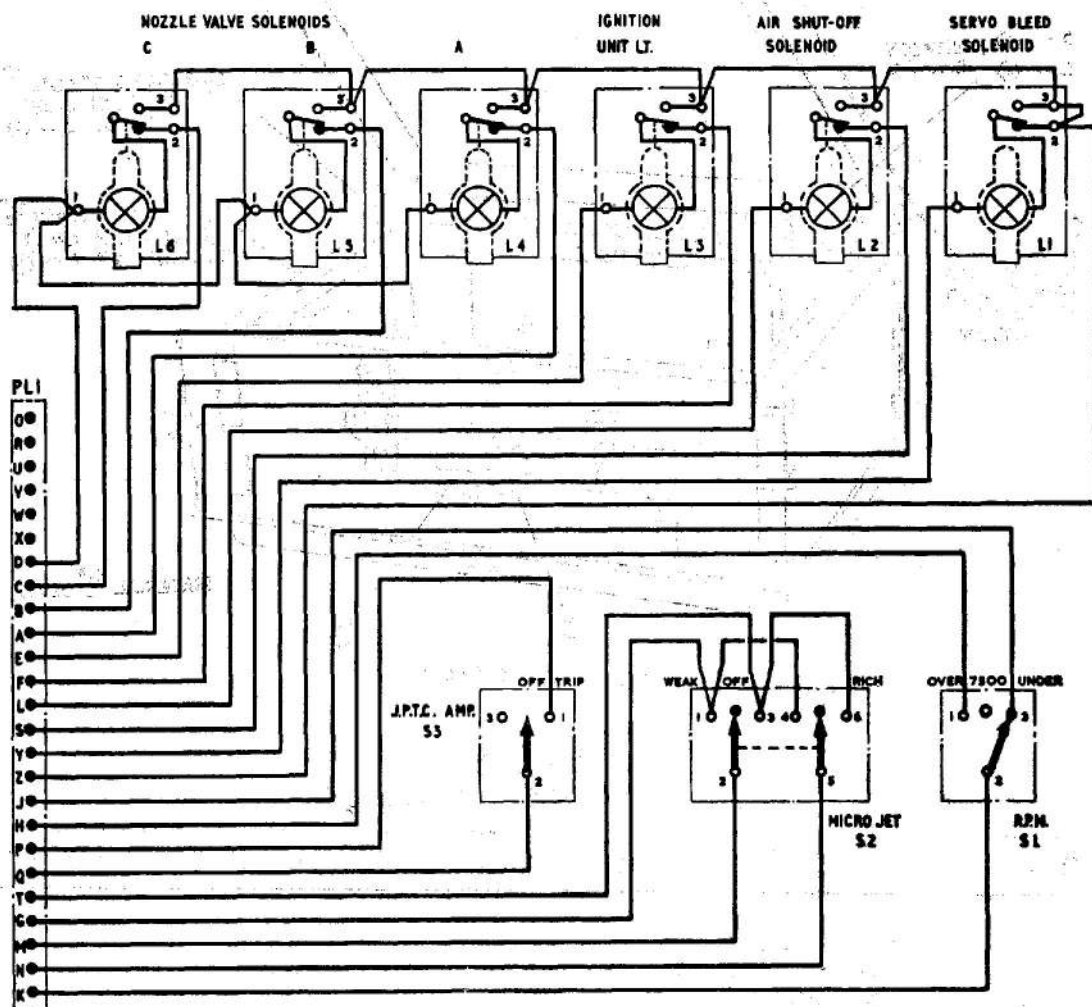

Fig. 3. Wiring Diagram of Test Set
(2) Finish the upper surface using duck-blue paint.
(3) Fit the warning lamps and breeze socket.
(4) Fit the single and double pole switches.
(5) Connect the components of the panel in accordance with the wiring diagram (fig. 3), using unipren 6 cable.
(6) Fit the assembled front panel into the test set case.